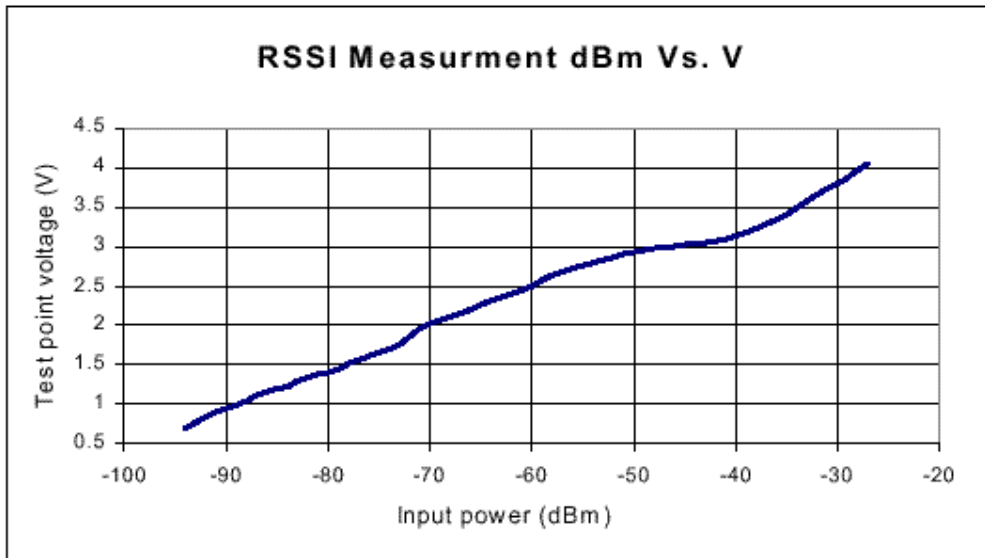

Figure 2-15. RSSI test point accuracy.
1. Connect the antenna to the AL-1 input, as shown in Figure 2-15.
The RSSI value can be viewed using the local monitor, as described on page 72. The RSSI per channel feature displays in graphic format the strength of the received signal on each of the RF channels in use. The modem also enables to collect a measurement of the average RSSI using a DVM (digital voltmeter) connected to the RSSI test pin in the rear panel of the unit. The measured DC voltage is relative to the RSSI value as indicated in Figure 2-15. The 2.048Mbps Wireless Modem enables to perform RSSI measurement using a DVM also near the Receive Antenna. This procedure simplifies the tuning process, by allowing easier reading of the RSSI level while moving the antenna.
2. Loosen the screws on the U-bolt that fasten the receive antenna to the mast (or the bolts on the wall mount) and slowly move the antenna up and down (elevation) and from side-to-side (azimuth) until you receive a maximum RSSI reading on the DVM. (See Figure 2-15).